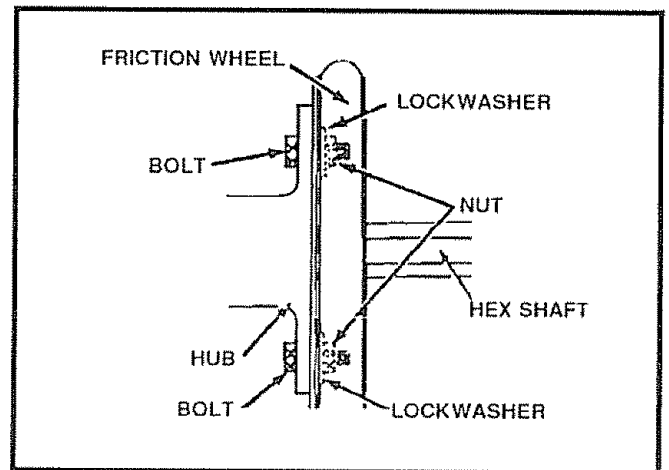

FIG. 31
- Remove the three (3) fasteners securing the friction wheel to the hub (See Fig. 31)
- Slip new friction wheel onto hub with recessed or cupped end away from hub (See Fig. 31).